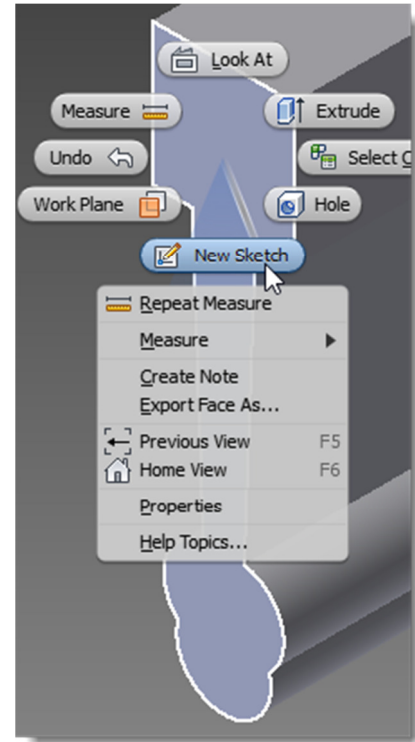

fig. 8
- 3) Now you have your new solid geometry that you could export out of AIP as an RFA (Revit Family file), or ADSK, or SAT, etc. Or using AIP's iCopy technology, you could create the entire curtain wall right here in AIP and ADSK that back to the architect. (**Note** - For an excellent treatment on iCopy for curtain walls, see Rob Cohee's 10 min video and 3 min video, in that order.) But in the case of curtain walls, there's a workflow even more expedient not just for the architect, but for the fabricator as well. It is to make a sketch of the mullion end and export *that* as a dwg. If I make a sketch of the end *after I shell the mullion* and export as a dwg (see figs. 8 & 9), I have all the information I need as a fabricator to create the extrusion die shape I need. If I *sketch the end the mullion as a solid* and export that as a dwg, I have a dwg outline file that in the case of Revit curtain walls, I can send back to the architect that will just *THRILL* him or her. Why?? That's a very good question – I'm glad you asked!